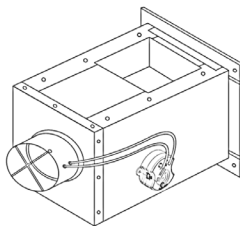

Figure 2
2. Mount the air pick-up pipe to the air inlet nozzles provided on the DPS. To fix the pipe, push one end of the flexible pipe till the edge butts out to the back of the nozzle and the other end to the crossflow tubes or pitot's installed. See Figure 2.